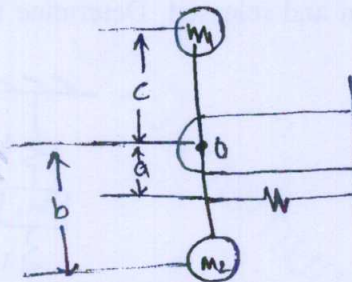

Fig.Q.2(b)
- b. Determine the natural frequency of two masses m_1 and m_2 connected to the light stiff rod as shown in Fig.Q.2(b). (10 Marks)